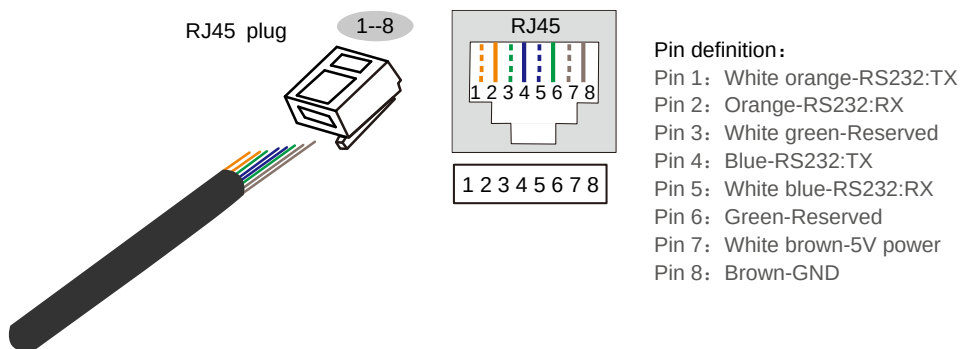

Figure2-17 Pin definition of RS232 port
- RS232 port is used for RS232 communication, which is to achieve the external SNMP card communication. RS232 port adopts RJ45 plug. The pin definition of RS232 port is shown in Figure2-17.